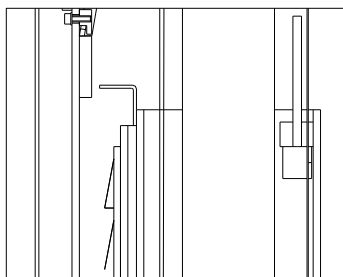

Fig.17
4. Keep both cables in balance during raising or lowering. (Fig.17).